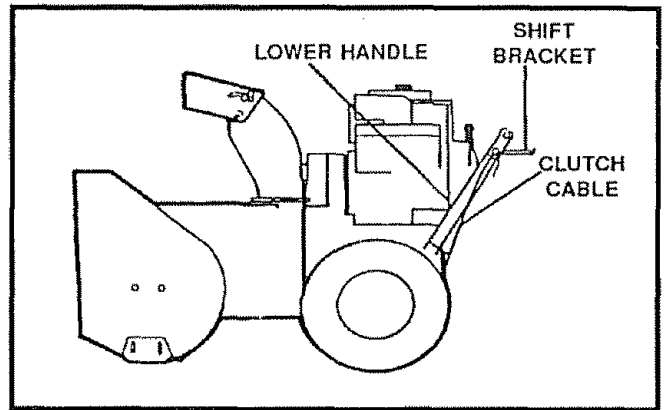
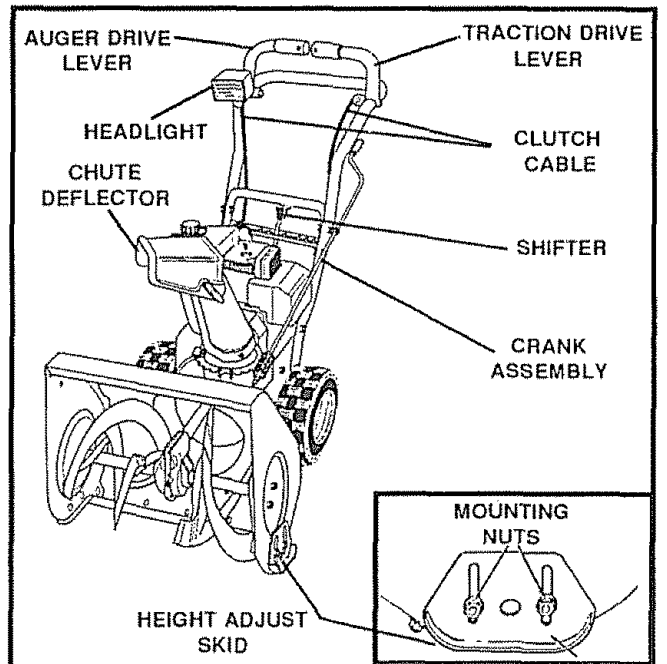

FIG. 1
FIG. 2
Fig. 1 shows the snow thrower in the shipping position. Fig. 2 shows the snow thrower completely assembled. Reference to the right and left hand side of the snow thrower is from the operator's position at the handle.
TO REMOVE SNOW THROWER FROM CARTON (See Fig. 1)
- Your snow thrower is equipped with height adjust skids (Fig. 2) on the outside of the auger housing. To adjust the skid height for different conditions, see the To Adjust Skid Height paragraph on page 17.
- Remove the pivot bolt nut, lockwasher and saddle washer (Fig 6A), place saddle washer and headlight in correct position (as shown in Fig 6B and in Fig 2 on page 7), then place lockwasher and re-tighten pivot bolt nut (See Headlight Repair Parts, page 34).